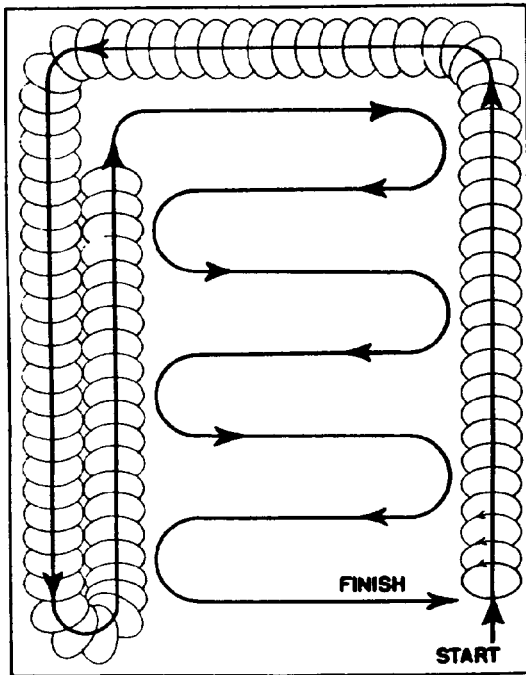

Figure 36. Buffing an Open Room Pattern.
6.2.24.4 *Doing the Job.* Operating directions for disk-type machine are found in paragraph 6.2.20, fig. 36.